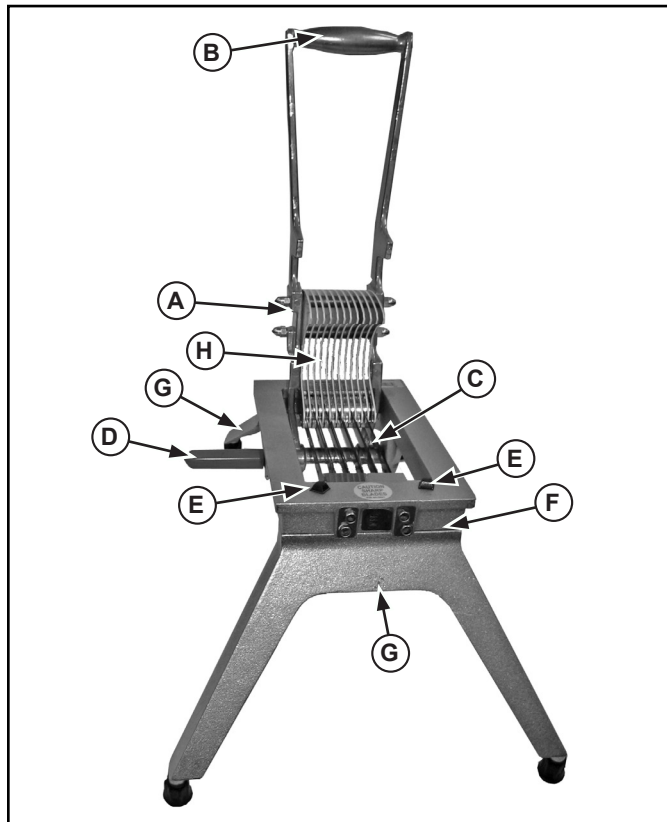

Figure 1. Features and Controls.
2. Before each use, check for proper blade alignment. Slowly set the pusher head (D) onto the blade assembly. See Figures 1. They should slide together with no obstructions. If there are obstructions, verify they are a matching set.
3. Verify that the blade assembly (C) and pusher head assembly (A) are the desired size. See Figure 1.
5. Lift the handle (B) and place the food on the rear of the blade assembly (C) with the flat side down.
6. Remove hand from the blade assembly area and place that hand on the safety handle (D).
7. Lower the handle (B) to slightly score the food product.
8. Using a strong, quick, downward thrust, force the food product through the blade assembly (C).
1. Raise the handle to put the highest position. See Figure 1.
3. Wipe, rinse or spray off equipment, pusher head assembly (H) and blade assembly (C) thoroughly with HOT water.
5. The cutting blade assembly (C) is best cleaned by forcing water under pressure through the blades from the unsharpened side. If necessary, use a nylon bristle cleaning brush to push food particles out from the unsharpened side of the blade assembly (C).